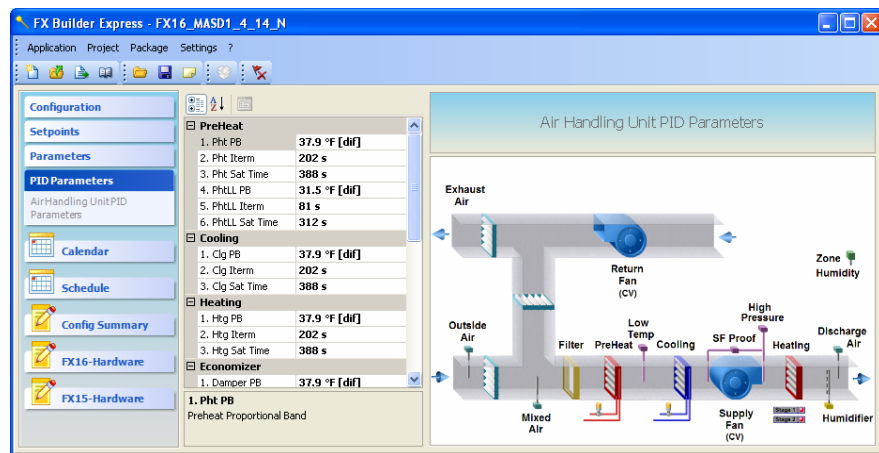

Figure 22: PID Parameters Tab
1. In FX Builder Express, select a standard application and select PID Parameters. PID parameters information appears (Figure 22).